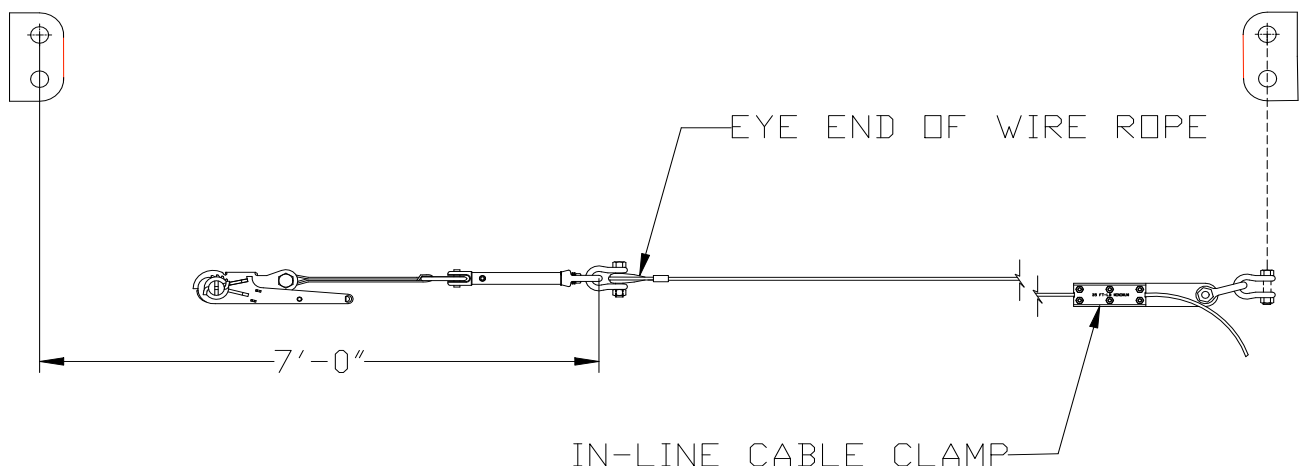

Figure 8 - Skyline™ Horizontal Lifeline Layout
17. Position the eye end of the wire rope so that it is about 7-ft. (see Figure 8) away from the location of one of the anchor lugs on an End Stanchion.